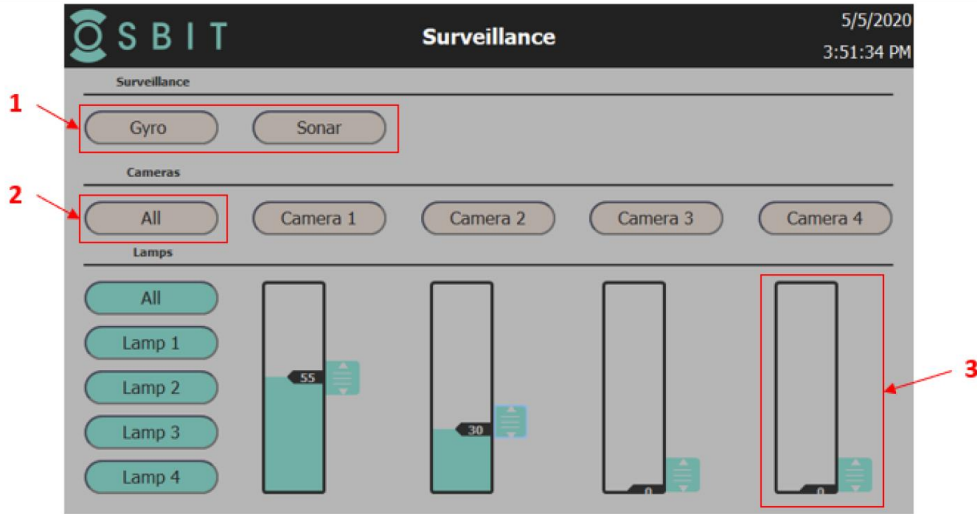

Figure 3 - Surveillance Page - Plow Control System
- Surveillance Page – See Figure 3